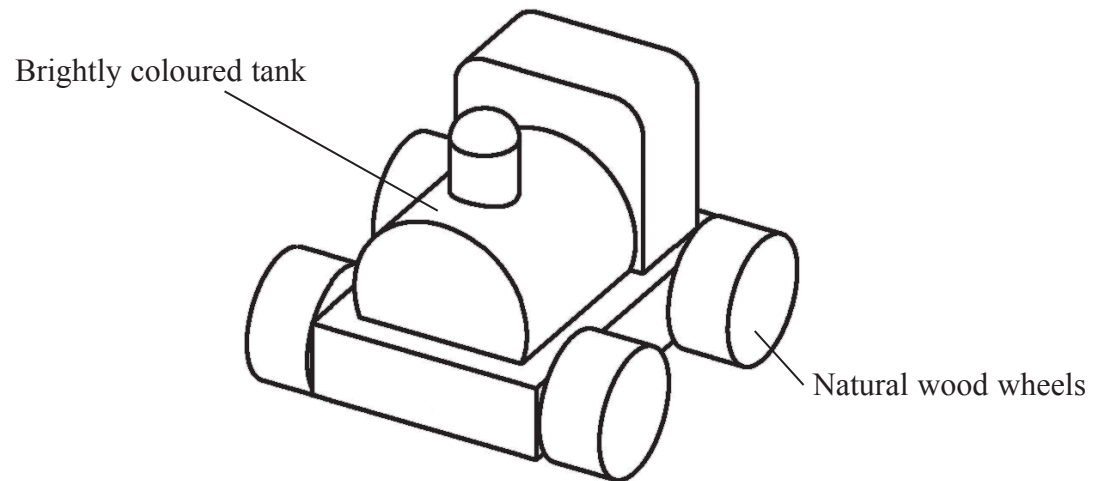

Figure 1
1. Figure 1 shows a batch produced children's wooden toy locomotive.